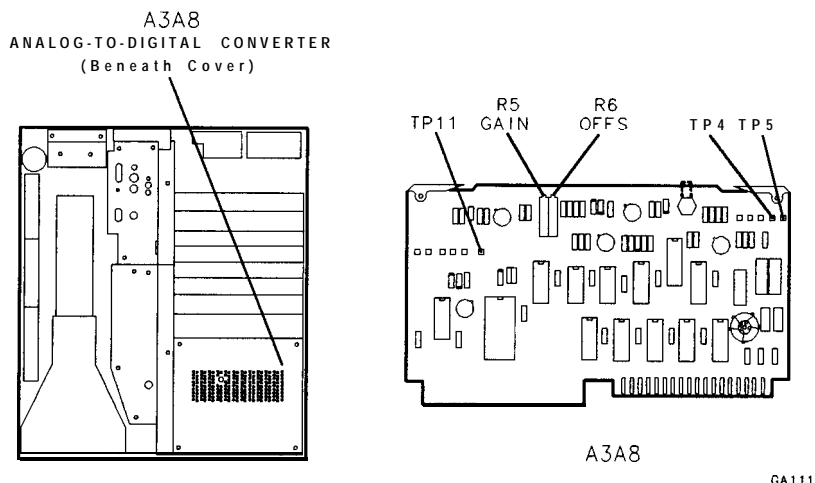

Figure 3-101.
- f. Adjust A3A8R6 OFFS for a square wave displayed on the oscilloscope. The square wave should be approximately 4 V_{pp}. See Figure 3-101 for location of adjustment.
- l. Adjust A3A8R5 GAIN for a square wave displayed on the oscilloscope. The square wave should be approximately 4 V_{pp}. See Figure 3-101 for location of adjustment.
- f. Adjust A3A8R6 OFFS until the level at A3A8TP11 is at a maximum ac voltage as indicated by the DVM (approximately 2.0 V ac). See Figure 3-101 for location of adjustment.